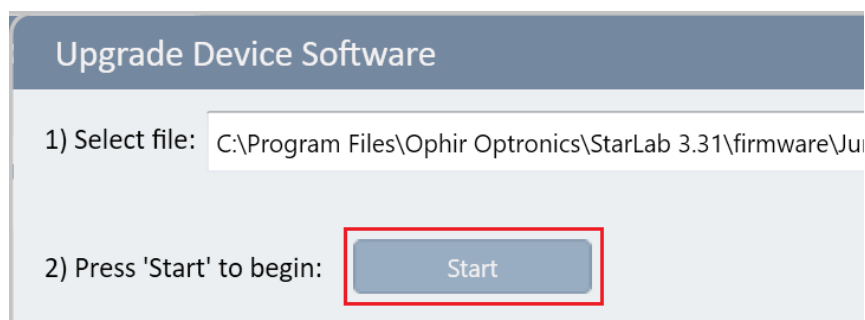

Figure 110: Upgrade Device Software Window
5. Leave the Select File path as it is and select **Start** and allow the Upgrade to install (Figure 110).